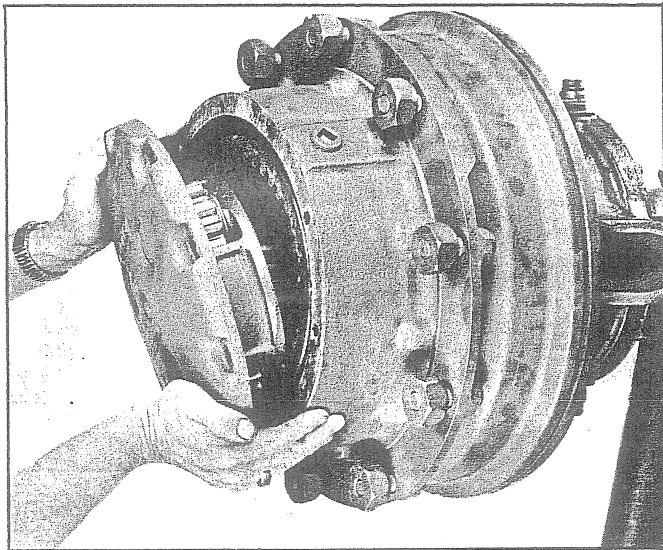

Fig. 104 - Installing Planetary Assembly
24. Position planetary assembly to axle as shown in Fig. 104. Install planetary assembly and secure with bolts and lockwashers tightened evenly to 50-55 ft.-lbs. torque. Install the plugs in the "puller" holes in planetary assembly.